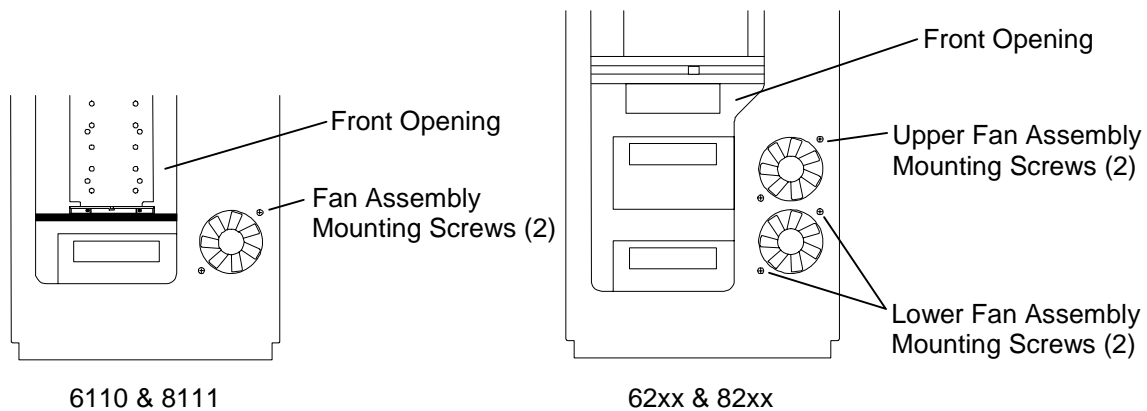

Figure 7-17 Fan Assembly Mounting Screws
6. Remove all the Fan Assembly mounting screws (Figure 7-17).
11. Align the Fan Assembly's mounting screw holes with the mounting screw holes in the TLS and then install the Fan Assembly mounting screws. Thread the nuts on to the mounting screws and then tighten the Fan Assembly mounting screws. See Figure 7-17.